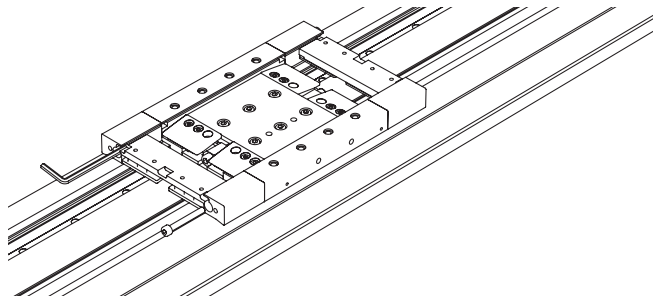

Fig. 7.4 Removing/mounting the cover strip deflection
- ▶ Undo the cover strip deflection mounting screws. Remove the cover strip deflection from both ends of all carriages (see Fig. 7.4).
- ▶ Mount the cover strip deflection on both sides of the carriage as shown in Fig. 7.4.